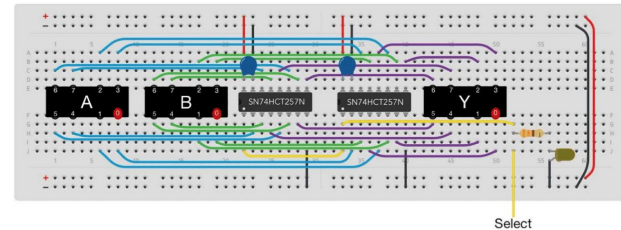
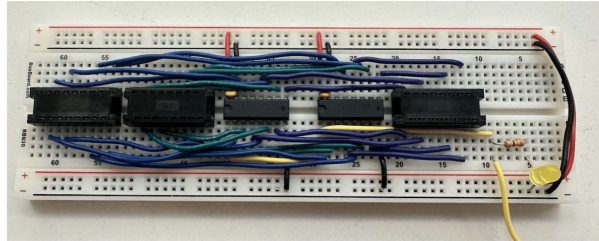

Figure 12: Add the select line and visualize it with an LED.
Figure 13: The finished bus MUX with place-holder connectors.
- Connect the other side of the resistor to both chips at pin 1 (yellow wires in Figure 12).
- Figure 13 shows the completed real circuit that corresponds to Figure 12. It uses 3 connectors as placeholders. They are not connected to anything at this point.